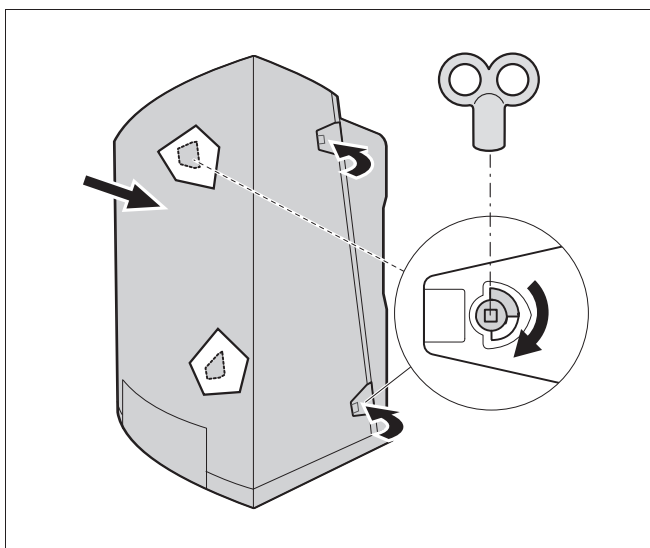

Fig. 41 Installing the casing
- Install the casing and close the latches (see fig. 41). Do not lift the casing by the latches!